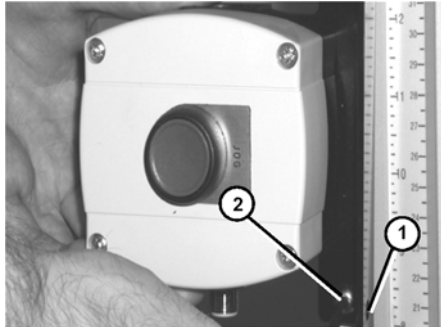

Figure 9
2. Partially thread controller lower mounting bar (**Figure 9, item 1**) to t-bar with screw (**Figure 9, item 2**).